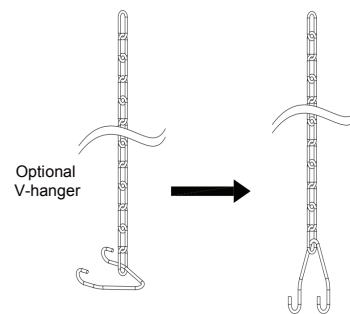

Figure 4
- Attach chain to supplied V-hanger (Figure 4).